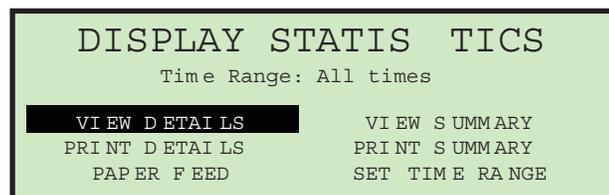

Figure 3-68: Display Statistics screen
1. On the Run screen, use the Up/Down arrow buttons to select and highlight **STATISTICS**, then press **Enter**. The **DISPLAY STATISTICS** screen appears, as shown in Figure 3-68.